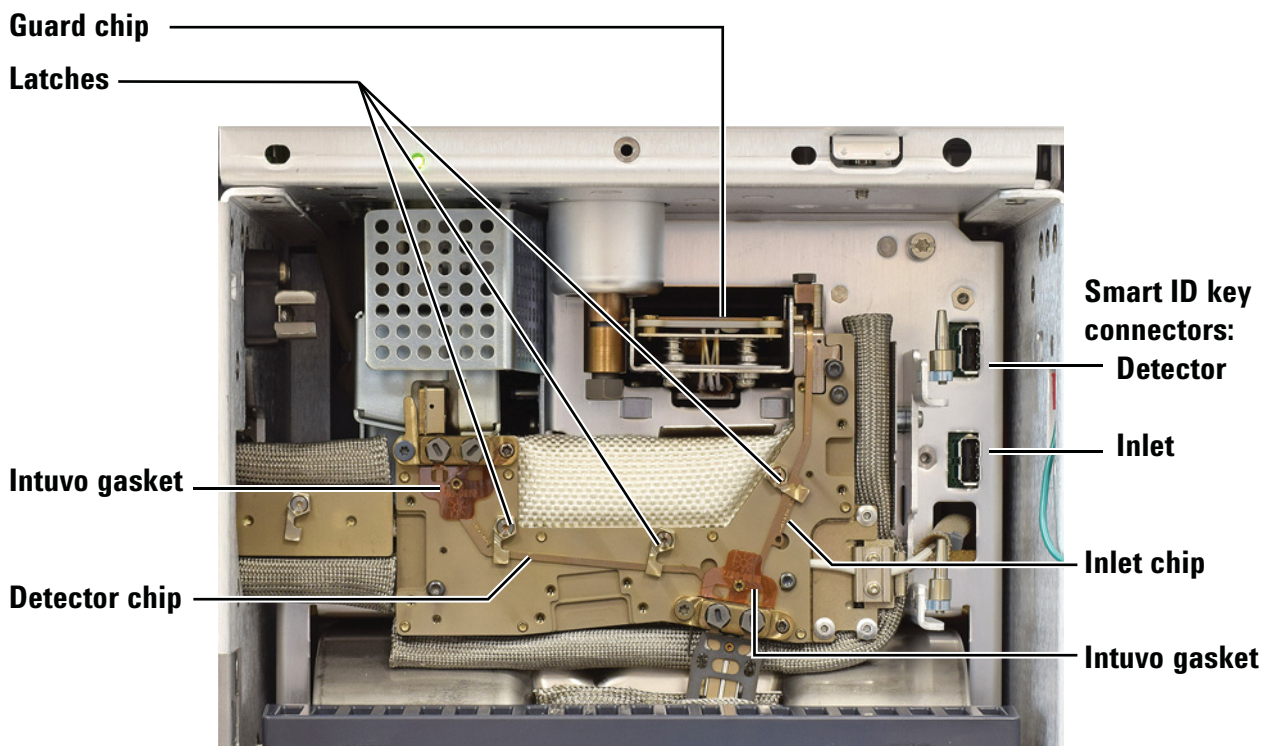

Figure 5 Intuvo bus components
Figure 5 shows the Intuvo major bus components.
The inlet and detector flow chips (see Figure 5) must be installed before installing a column or detector tail.
- 5 Use the torque driver to open the clip that secures the inlet chip to the bus. See Figure 5.